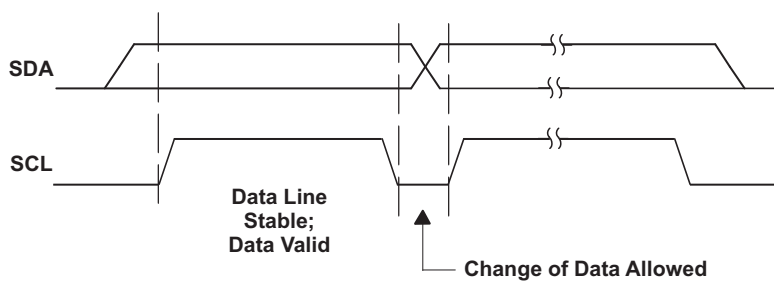
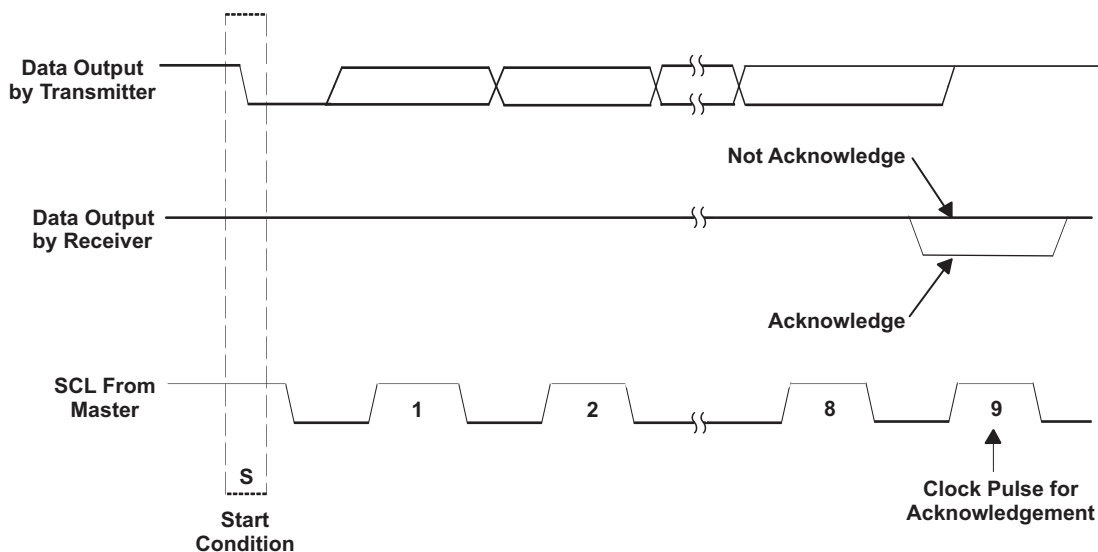

Figure 18. I²C Bit Transfer
Figure 19. I²C Acknowledge
- The master then generates the SCL pulses and transmits the 7-bit address and the read/write direction bit R/W on the SDA line. During all transmissions, the master ensures that data is valid. A valid data condition requires the SDA line to be stable during the entire high period of the clock pulse (see Figure 18). All devices recognize the address sent by the master and compare it to their internal fixed addresses. Only the slave device with a matching address generates an acknowledge (see Figure 19) by pulling the SDA line low during the entire high period of the ninth SCL cycle. On detecting this acknowledge, the master knows that a communication link with a slave has been established.